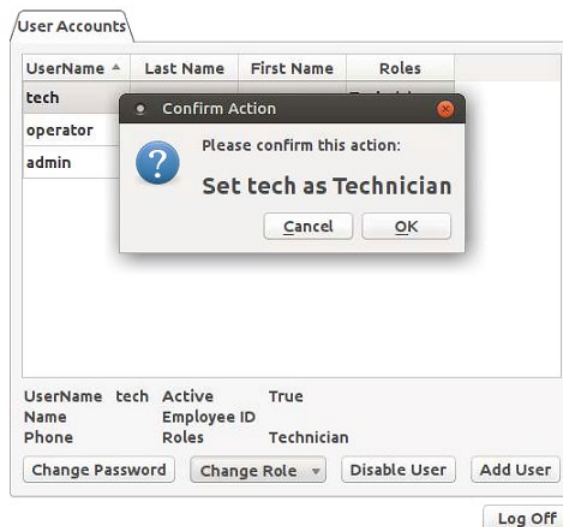

Figure 38: Change Role Confirmation
1. Click to highlight the user role you want to change. Figure 38.
The Change Role drop-down menu displays. Figure 38.